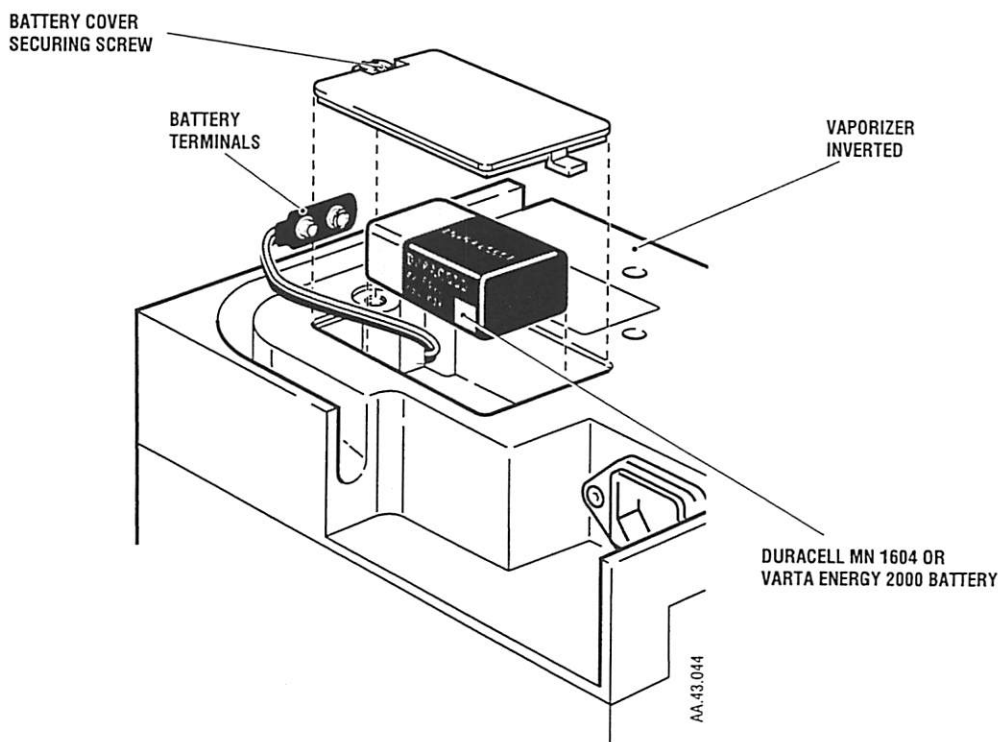

Fig. 10 Fitting The Battery
1. Invert the vaporizer, unscrew the battery cover securing screw and remove the battery cover from the base of the vaporizer as illustrated on Fig. 10.